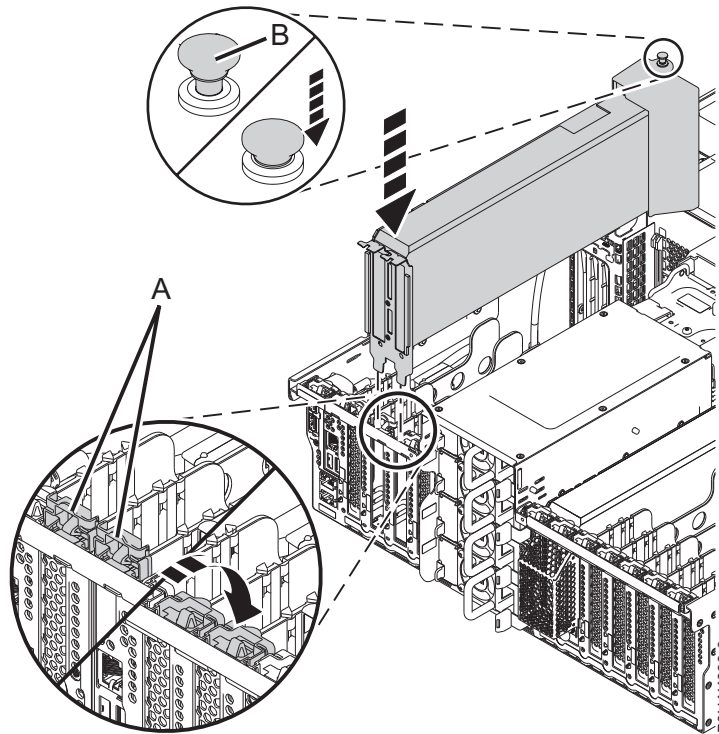

Figure 9. Installing or replacing the GPU adapter PCIe adapter in a rack-mounted system
9. Carefully grasp the adapter by its top edge or tailstock, and align the adapter with the slot and its connector on the system backplane (**A**), as shown in Figure 7 on page 9, Figure 9 on page 10, and Figure 8 on page 9.
- a. Rotate the adapter latch (A) in the direction shown in Figure 9.
- b. Press the latch (B) on the air baffle to lock in place, as shown in Figure 9.If you are installing or replacing any other adapter, go to the next step.